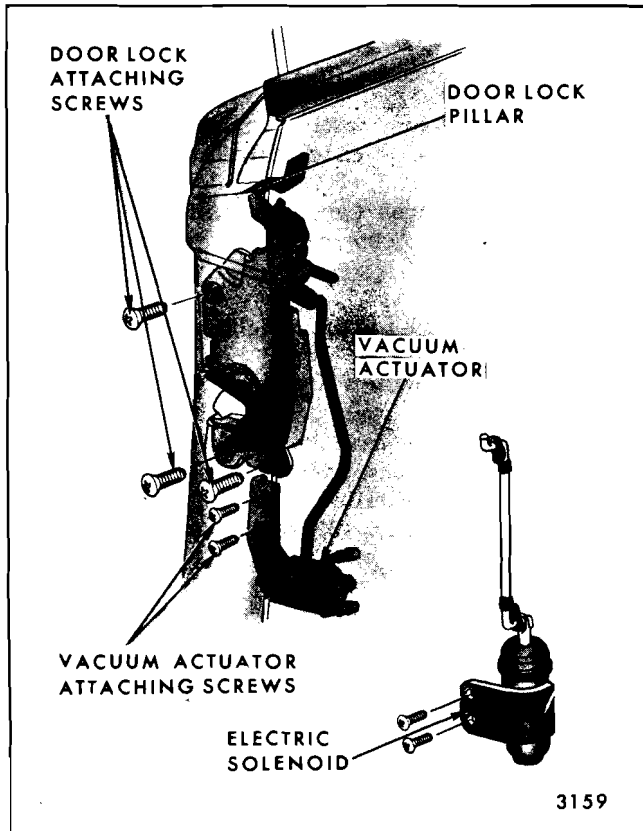

Fig. 6-27—Front Door Lock Vacuum Actuator or Electric Solenoid Installation
3. On front doors, remove vacuum actuator or electric solenoid to door lock pillar attaching screws, disconnect rod and remove through access hole (Fig. 6-27).